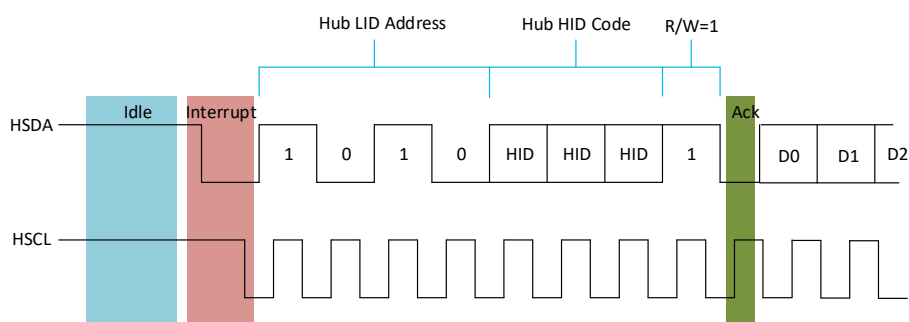

Figure 12 — SPD5 Hub Interrupt; Host Ack Followed by SPD5 Hub Device IBI Payload
- The Host sends ACK on 9th bit to accept the interrupt request. At this point, if the SPD5 Hub confirms that it has won the arbitration, the SPD5 Hub device transmits the IBI payload as shown in Table 44 and Table 45 for PEC disabled and PEC enabled configuration respectively. See Figure 12. Figure 12 just shows only first two data bits of the MDB byte to illustrate the timing. The interrupt payload contains MDB followed by 8-bit register contents of Table 133, “MR51” and Table 134, “MR52” in order. The host then issues the STOP command. Note the timing waveform in Figure 12. The host then accepts the IBI payload if it sends an ACK on 9th bit to accept the interrupt request. The host can interrupt the IBI payload at T. If host stops the IBI payload at T bit in the middle of payload, the SPD5 Hub device retains the IBI status flag Table 130, “MR48” [7] = ‘1’ and Pending Interrupt Bits [3:0] internally and waits for the next opportunity to request an interrupt. If the SPD5 Hub device successfully transmits the entire IBI payload, it then clears IBI status flag Table 130, “MR48” [7] = ‘0’ and Pending Interrupt Bits [3:0] = ‘0000’ on its own and does not request for an IBI again unless there is another different event occurs; for another same event, the device does not request for an IBI.